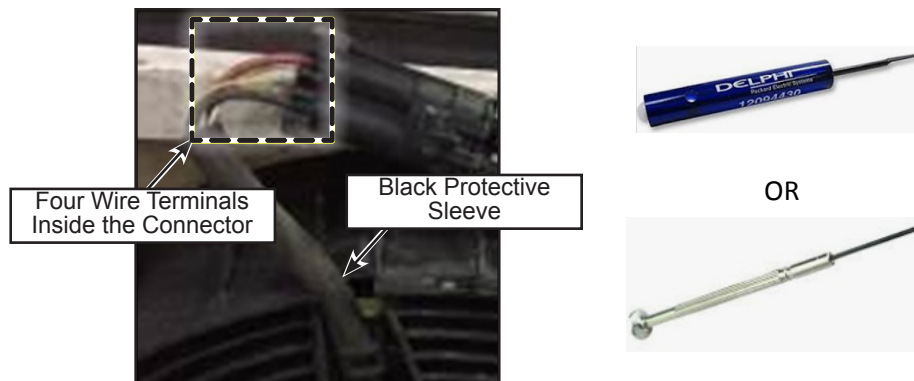
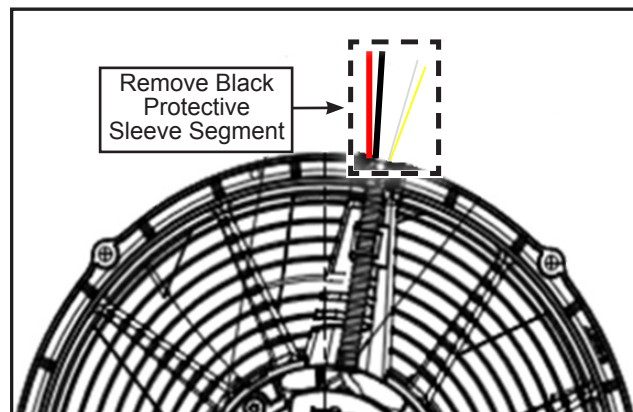

Figure 5 - Fan Side Connector Removal and Tool Options for Terminals Extraction from the Connector Housing
Figure 6 - Black Protective Sleeve Segment Removal
- 1.12. On the fan side, extract the four wire terminals inside the connector using a Delphi extraction tool or a small flat blade screwdriver. Then cut the terminals keeping the maximum wire length (see figure 5). Remove black protective sleeve segment on the outer part of the fan protection shroud (see figure 6) and clean the wires with contact cleaner, if glue or dirt is present.